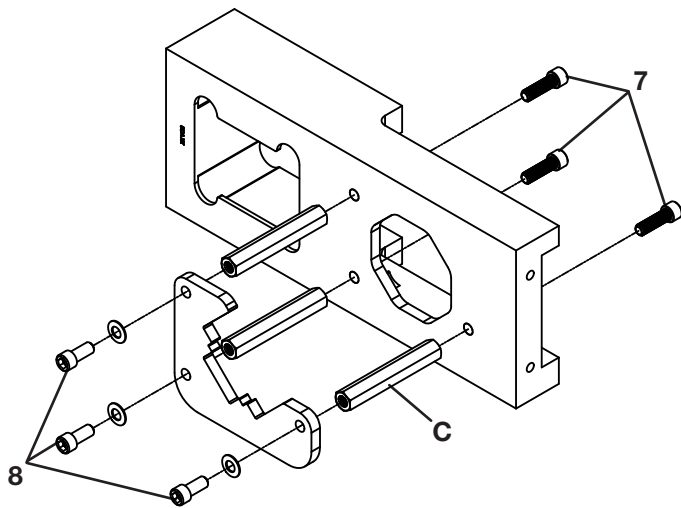

Figure 5
5. Remove the screws for the material rest (7 & 8) as shown in Fig. 5. Use a 5/8" hex wrench to hold the standoffs (C) when removing screws.